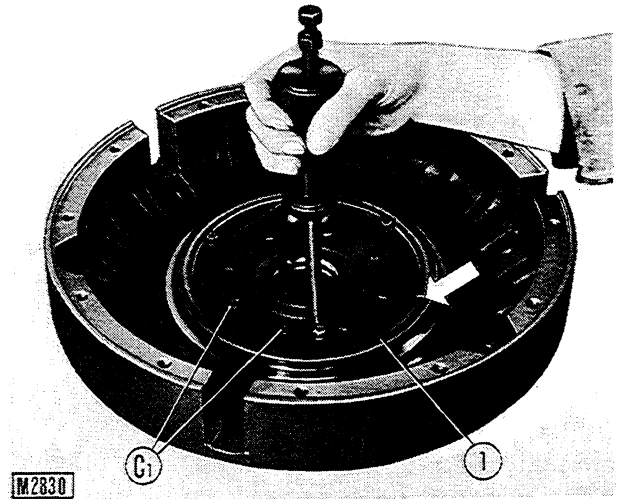

Fig. 6 - Removing annular piston (1) using slide hammer puller 75291523.
- Withdraw split cones (5).
- Remove annular piston (1, Fig. 6) using slide hammer puller 75291523.